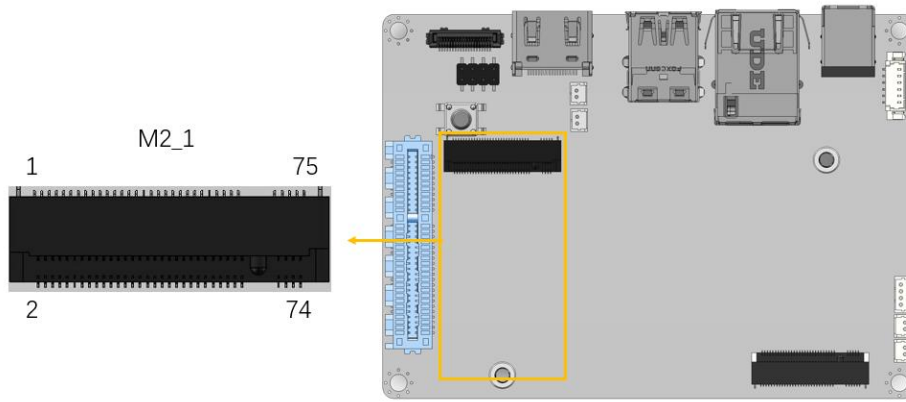

Figure 3-8: M.2 M-key Slot Location
- CN Location:** See Figure 3-8